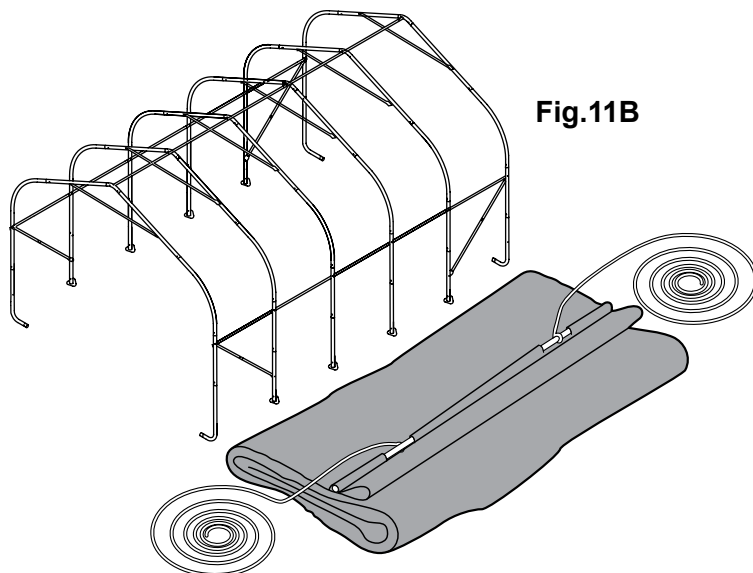

Fig.11B
B. Fold over the side closest to the frame so the pipe pocket is now accessible. Insert a cover pipe at the first middle rib from the front and the first middle rib from the rear so that it is inserted in the pipe pocket on both ends of the pipe but the center of the pipe is exposed. For long buildings it may be necessary to use additional pipes in the middle. Fig. 11B.